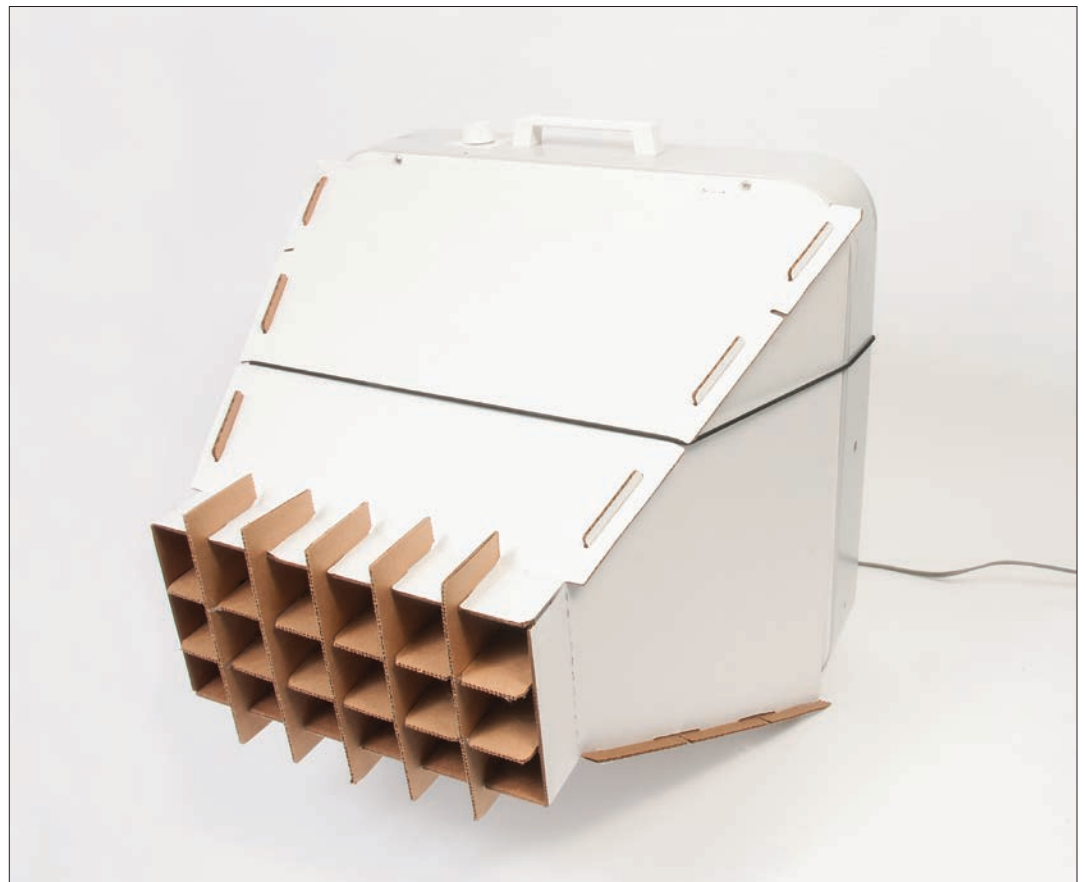

Figure 18
2. Place the Air Control Funnel in front of the fan with the large opening against the fan and secure it onto the fan with the black elastic cord. Tighten the cord lock appropriately until the grid is snug against the fan. There are slots on the Air Control Funnel for the black elastic cord (Figure 18).